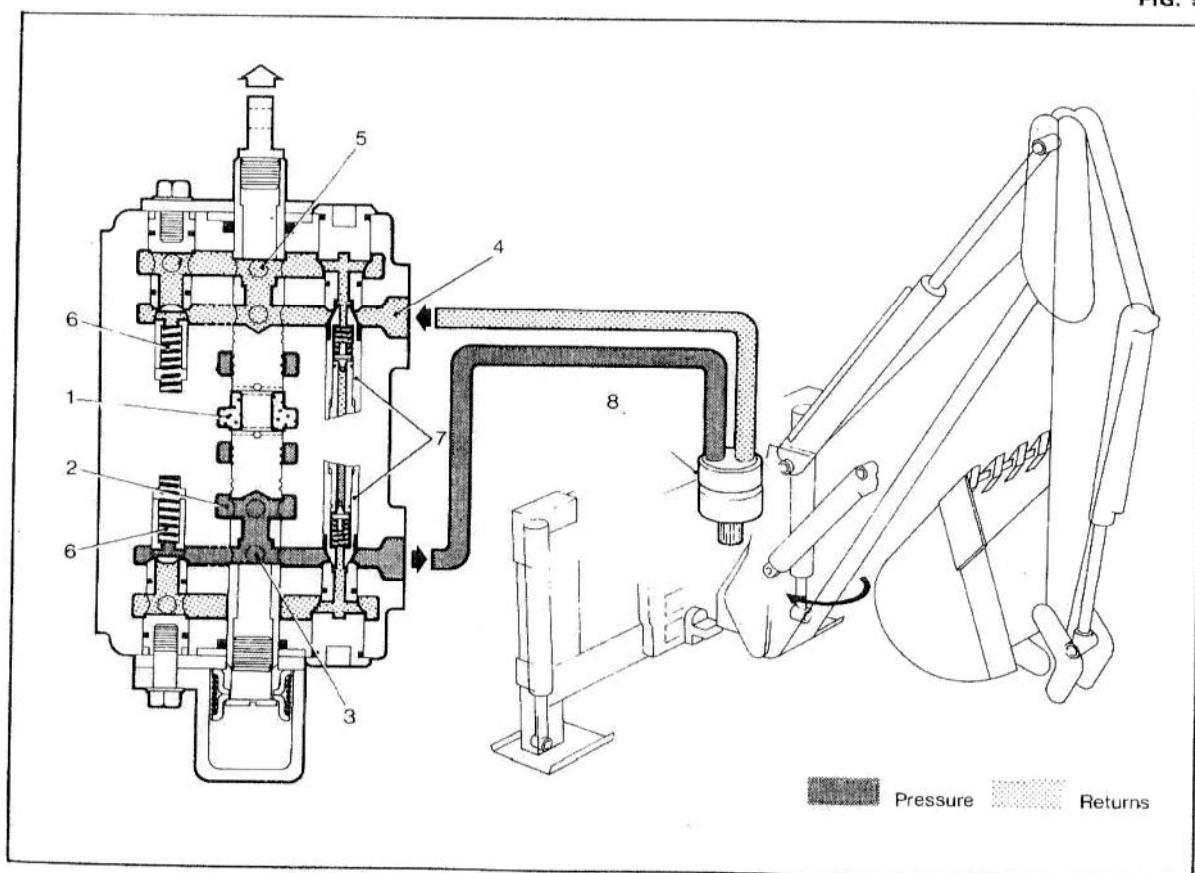

FIG. 6
(Fig. 6) shows the selector spool in an operating position whereby oil flows from the pressure gallery (2) through the lower service port (3) to the left hand vane compartment in the actuator (8). The digger will then rotate to the right. The oil which is discharged from the opposite side of the vane returns via the feed port (4), to the return gallery (5). If the build up of pressure against the actuator vane exceeds 2000 lbs/in² (140.6 kg/cm²), the lower shock valve (7) will relieve the pressure momentarily until movement of the digger is obtained.
KEY TO FIG. 6